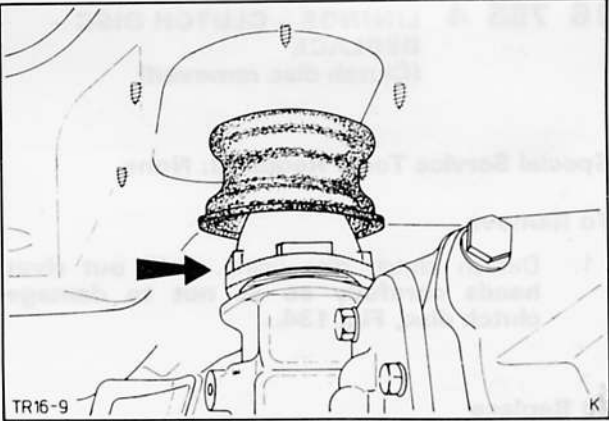

Fig. 137. Fit gear lever assembly
4. Insert gear lever and attach plastic cap from underneath, Fig. 137.